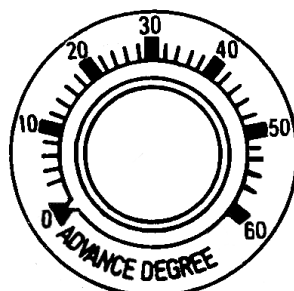

Figure 5
- 4.3.2 Observe the reading from the advance scale as shown in figure 5.